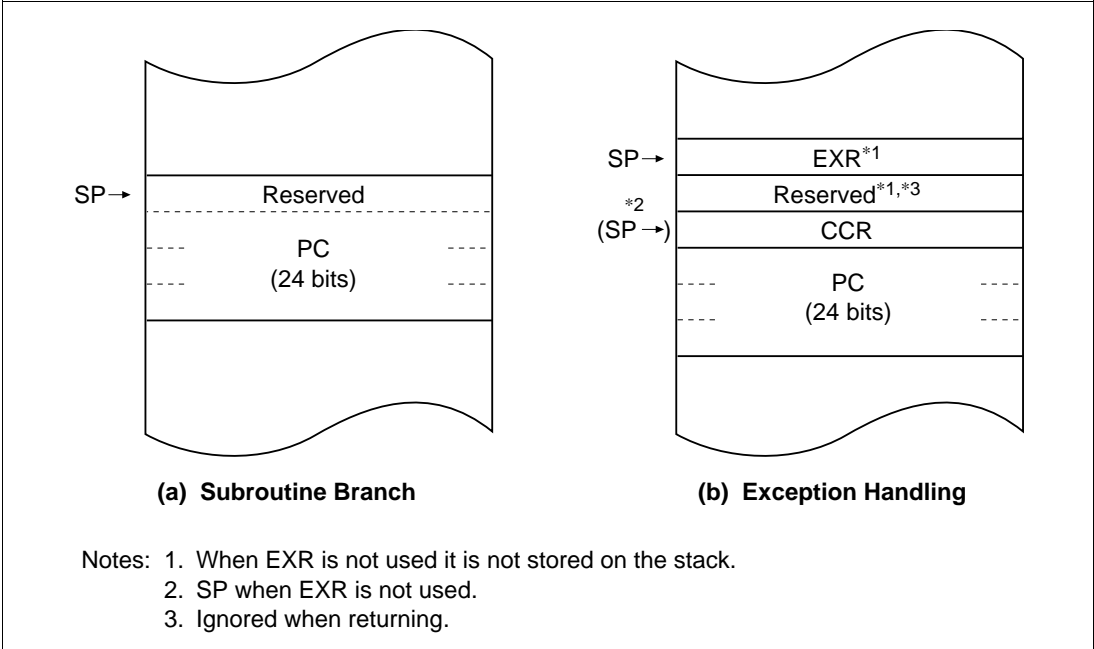

Figure 2.5 Stack Structure in Advanced Mode
Stack Structure: In advanced mode, when the program counter (PC) is pushed onto the stack in a subroutine call, and the PC, condition-code register (CCR), and extended control register (EXR) are pushed onto the stack in exception handling, they are stored as shown in figure 2.5. When EXR is invalid, it is not pushed onto the stack. For details, see section 4, Exception Handling.